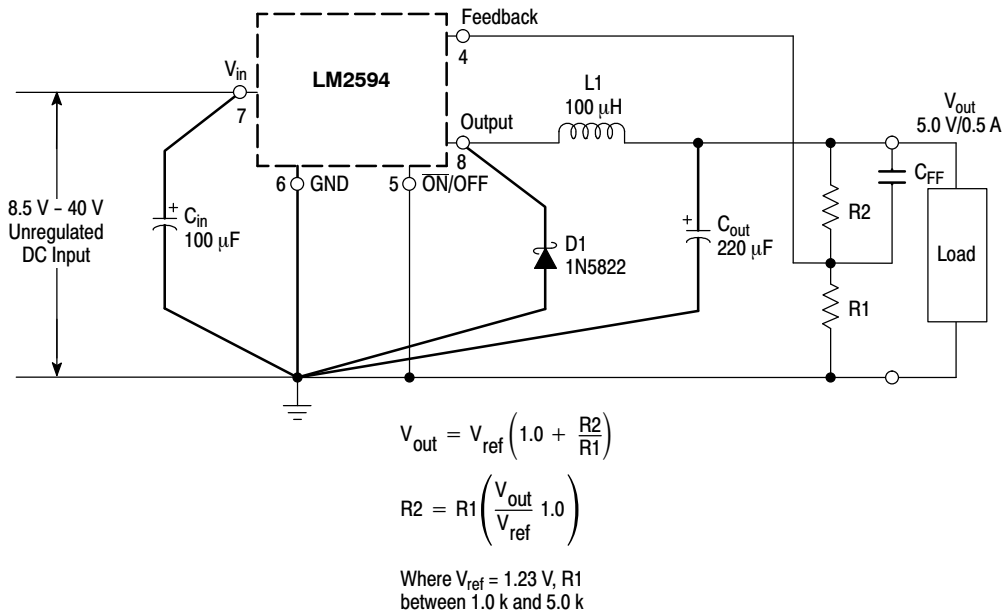

Figure 16. Typical Test Circuit
LM2594 (Note 1, Test Circuit Figure 16)
- External components such as the catch diode, inductor, input and output capacitors can affect switching regulator system performance. When the LM2594 is used as shown in the Figure 16 test circuit, system performance will be as shown in system parameters section.
## TYPICAL PERFORMANCE CHARACTERISTICS (Circuit of Figure 16)
TYPICAL PERFORMANCE CHARACTERISTICS (Circuit of Figure 16)
As in any switching regulator, the layout of the printed circuit board is very important. Rapidly switching currents associated with wiring inductance, stray capacitance and parasitic inductance of the printed circuit board traces can generate voltage transients which can generate electromagnetic interferences (EMI) and affect the desired operation. As indicated in the Figure 16, to minimize inductance and ground loops, the length of the leads indicated by heavy lines should be kept as short as possible.